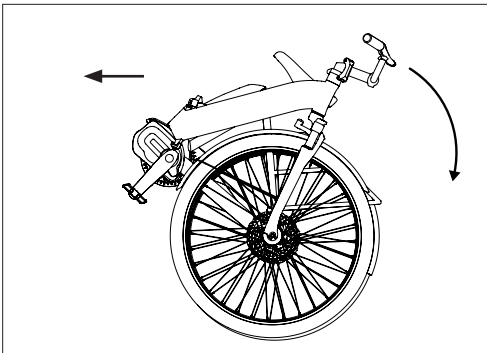

Fig. 39: Rolling the bike while folded.
3. Press down both brake levers with your thumbs, and tilt the bike toward you. Activating the brakes will lock the wheels and allow you to pivot the bike to a balanced position (Fig. 39).
4. With the motor side of the bike raised, release the brakes, and the bike should now easily balance. You can now roll the bike front of you while walking (Fig. 39).